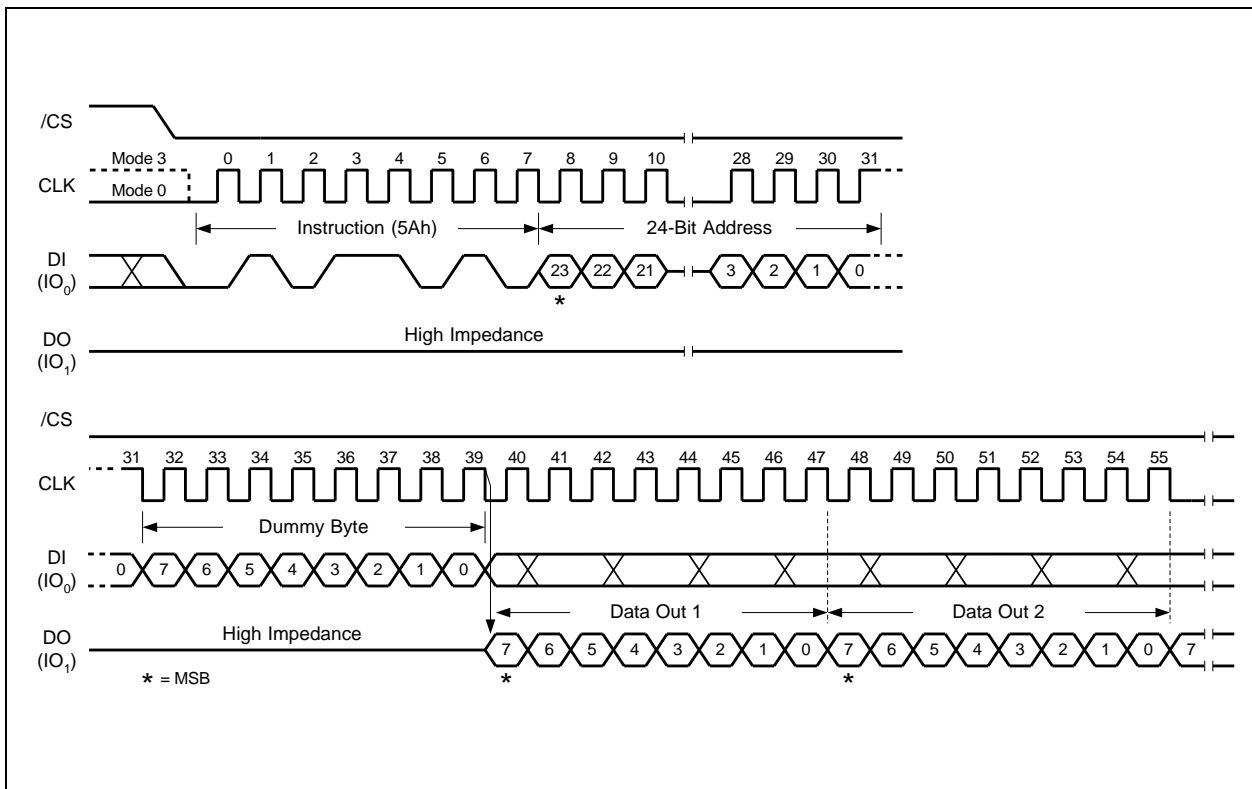

Figure 48. Read SFDP Register Instruction
The Read SFDP instruction is initiated by driving the /CS pin low and shifting the instruction code “5Ah” followed by a 24-bit address (A23-A0)(1) into the DI pin. Eight “dummy” clocks are also required before the SFDP register contents are shifted out on the falling edge of the 40th CLK with most significant bit (MSB) first as shown in Figure 48. For SFDP register values and descriptions, please refer to the Winbond Application Note for SFDP Definition Table.